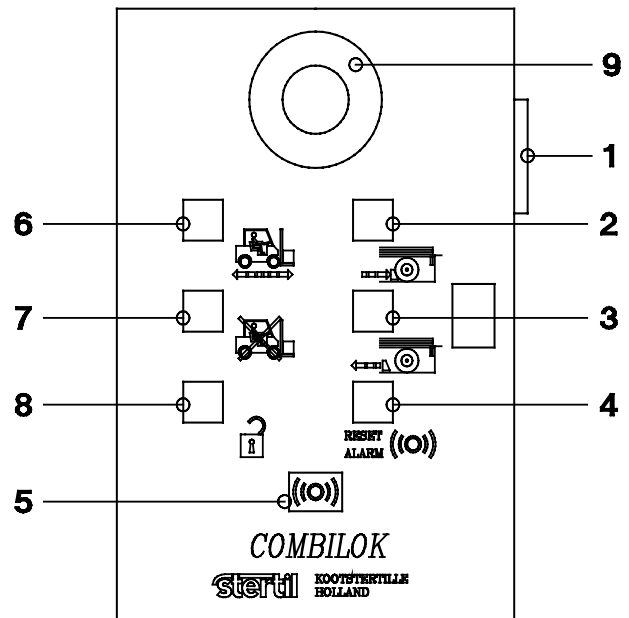
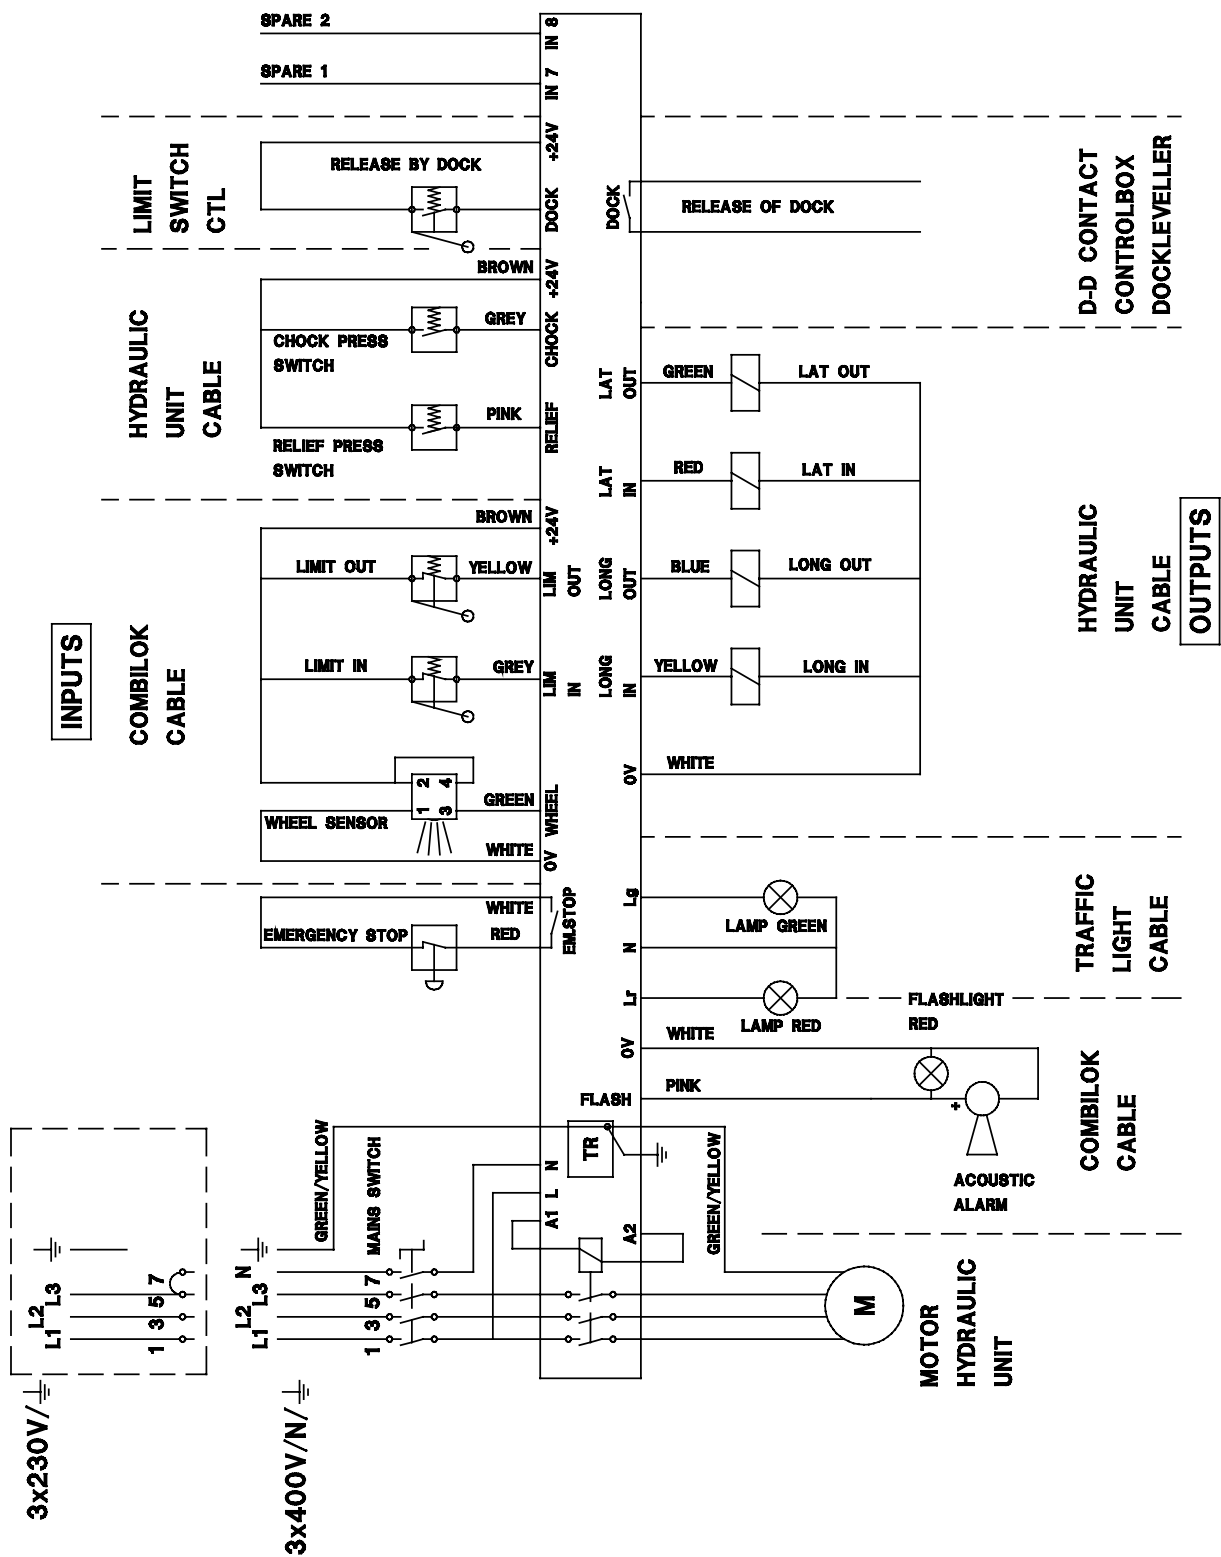
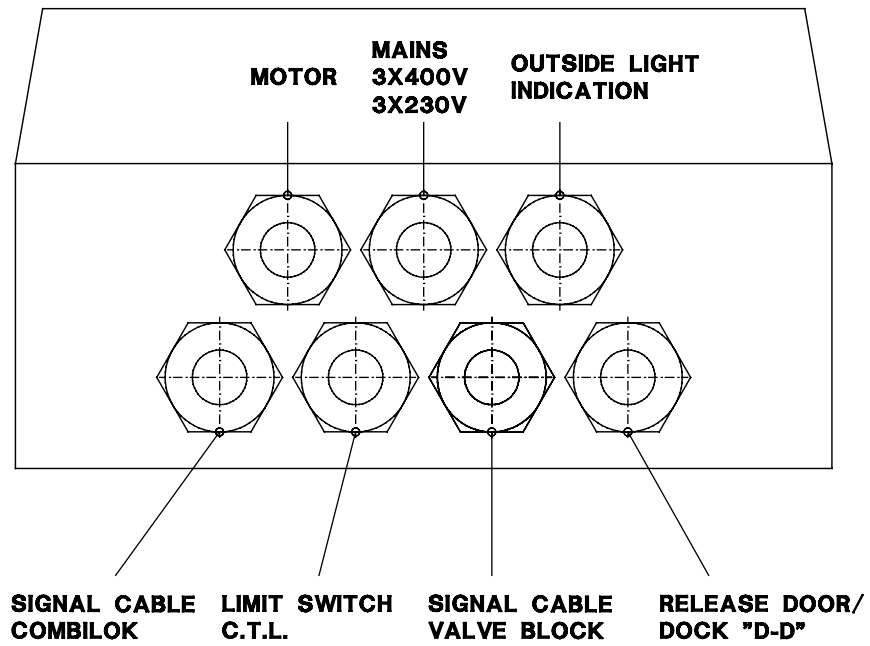

Fig. 2A, Control panel
Fig. 4A, Electrical diagram
Fig. 4B, Swivel connections
- hose with code "Long Out (A)" to the 10 mm coupling on the "A" side of the valve casing.
- hose with code "Long In (B)" to the 10 mm coupling on the "B" side of the valve casing.
- hose with code "Lat In (A)" to the 6 mm coupling on the "A" side of the valve casing.
- hose with code "Lat Out (B)" to the 6 mm coupling on the "B" side of the valve casing.
N.B.: The hose "Lat Out (B)" can be fitted easily when the magnet coil is removed temporarily; this can be done by loosening the plastic nut in front of the magnet coil.
- Connect the terminals 1,3,5 and 7 and the ground wire provisionally to the power available on site according to the electrical circuit diagram (fig. 4A).
- Mount control box (fig. 2A).
- Install the electrical cables, generally according to the electrical diagram (fig. 4A), and use the swivels according to the swivel connections (fig. 4B).
- Connect the signal cables (fig. 4A).
On the outside of the control box there are a number of pressure buttons and indication lamps for the automatic execution of the locking program. The control box contains a number of microswitches for the manual execution of the four movement options. The text next to the buttons indicates which movement is being executed. There are also a number of LEDs for detecting the non-visible inputs (the limit and pressure switches, the wheel sensor, the release contact), all of which are designed to simplify putting into operation and fault analysis. The cables are colour-coded and are connected to the connection terminals provided with text according to the electrical circuit diagram (fig. 4A).
Checking the outputs (see fig. 2A and fig. 4A)
Checking the inputs (see fig. 2A and fig. 4A)